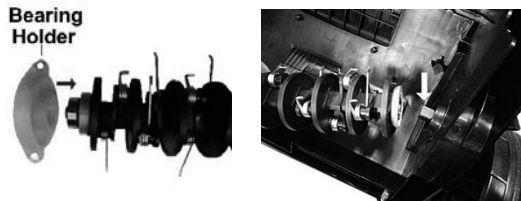

Fig.10
1. Replace the roller and insert the bearing into the bearing holder, then aligning the roller with the exposed pins on the body and slotting into place(Fig.10).